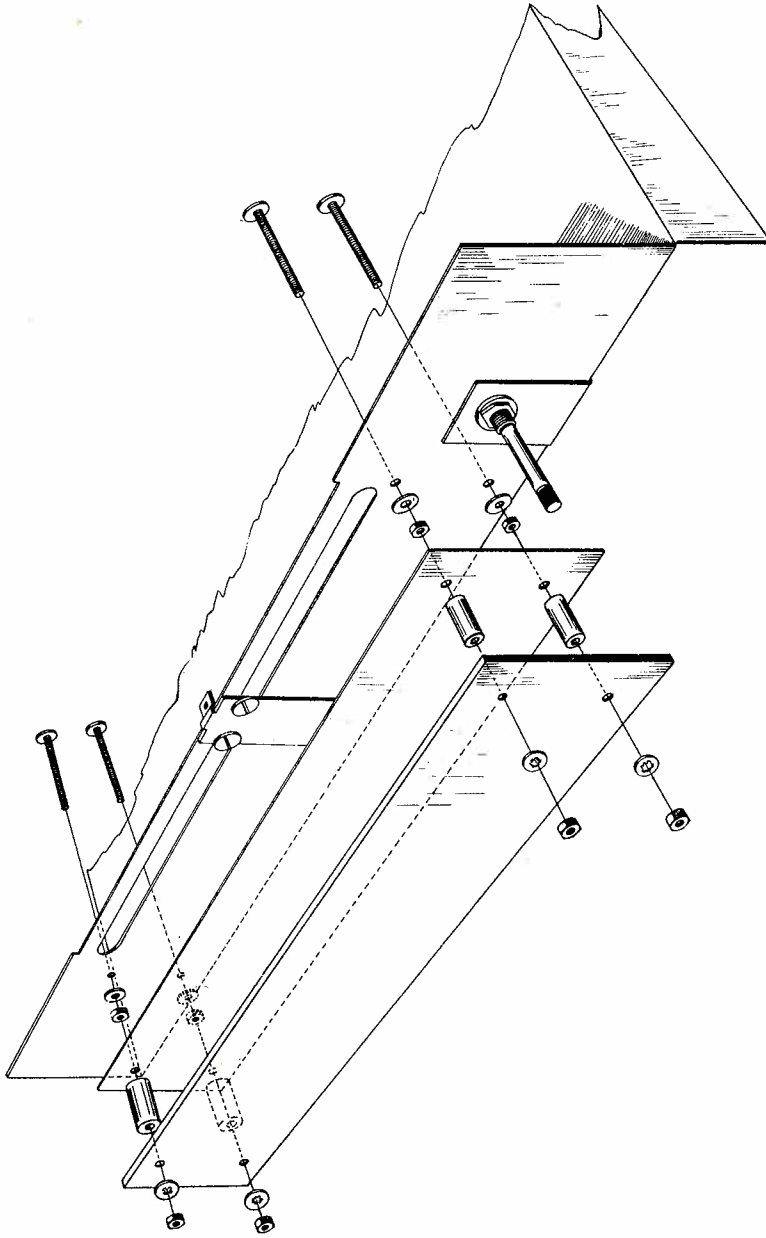

Fig. 8
8. (✓) Fig. 8. Mount the black backing plate and the dial scale to the four #6 x 1 1/8 screws previously mounted to the chassis front apron. Loosen the screws if you find it necessary for easy insertion. Use the four black spacers, four #6 lockwashers and four #6-32 hex nuts.